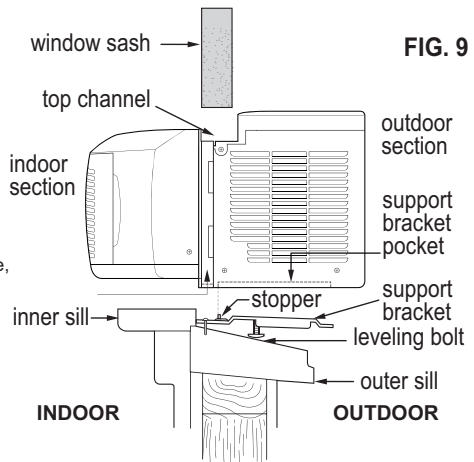

FIG. 9
- * Make sure that support bracket is inserted in the pocket under base fan, and that filler panels guide is stopped by stopper on the support bracket as shown in FIG.9.